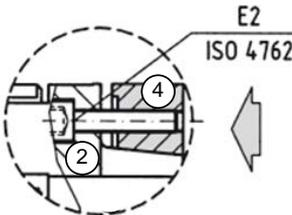
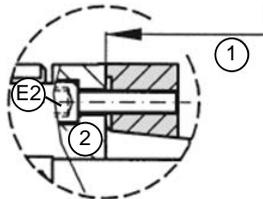

Figure 5
Figure 6
- ◆ Please make sure that the clamping screw(s) of the coupling half is/are released and that the clamp collar (Fig. 5, Pos.4) and the coupling hub (Fig. 5 Pos.2) are pulled apart.
- ◆ ETH100&125: Tighten the fixing screws (Figure 5 Pos.E2) crosswise with a torque wrench in 3 turns with 1/3, 2/3 and full tightening torque until the final tightening torque (see table) is attained and the clamp collar touches the coupling half. The dead stop (Figure 6, Pos.1) on the coupling half (Figure 6 Pos.2) prevents too high pretension of the conical clamp collar and ensures high rotational accuracy.